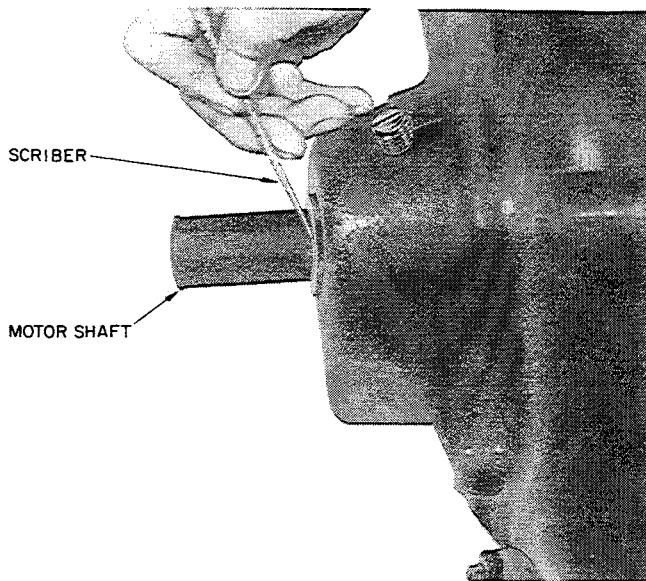

Fig. 2 — Scribing a Line to Indicate Running Position of Motor Shaft
Step 4 — Start the motor and lightly scribe a line around the shaft at the face of the bearing housing (see Fig. 2). This marks the running position of the shaft. If the motor cannot be run, measure the amount of shaft end play and lightly scribe a line around the shaft at half this measurement.